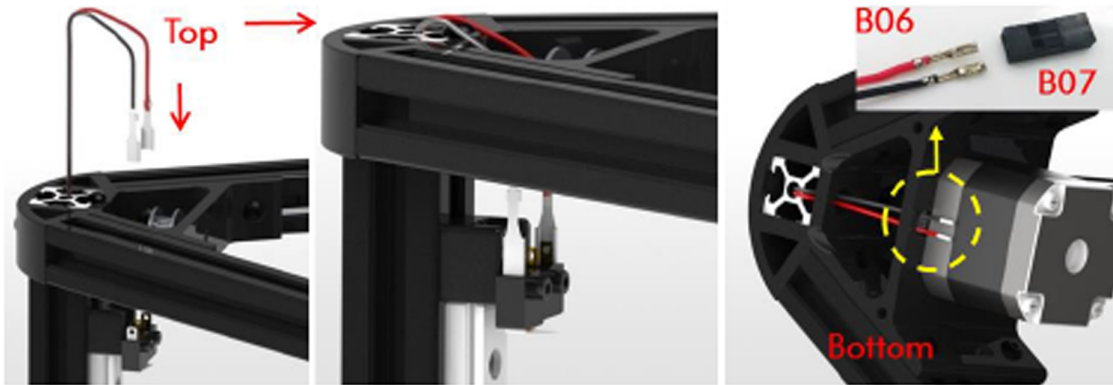

Fig. 20
Step 3. Install one end of the wire (B06) to the limit switch through the top triangle frame (no positive and negative). Lead the other end of the wire passing through the hole of the AI-extrusion and the holes of the bottom triangle, which is shown in Fig. 20. After that, fix